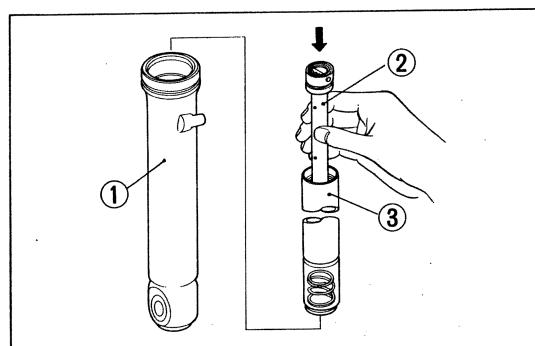

Fig. 41 ① Front fork bottom pipe
- 2) Slide the under seat into place in the fork pipe; insert the suspensions spring. (Fig. 41)